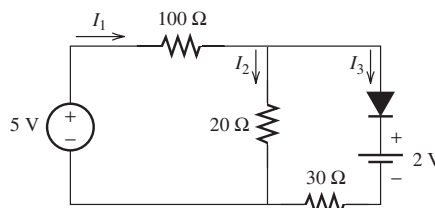

FIGURE P8.21 Circuit for Problem 8.21.
- 8.21 (H)* Find I_1 , I_2 , and I_3 for the circuit shown in Figure P8.21.